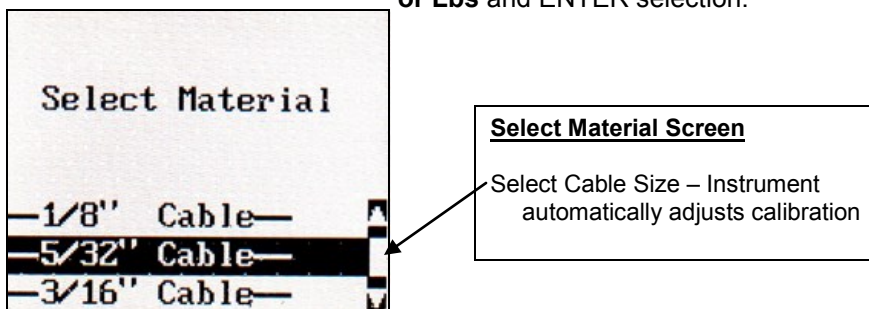

Figure 3
6. **SELECT MATERIAL.** Use either the up (↑) or down (↓) arrows to scroll to **SELECT MATERIAL** and then press ENTER. Next scroll through the various cable descriptions until the correct cable size is highlighted and then press ENTER. Note: Your main display will indicate the cable size selected. If your specific material is not listed, follow the calibration procedure included at the end of these instructions, or send a 15' sample of your material/cable and the instrument to Tensitron to have it added to the menu. *Figure 3*